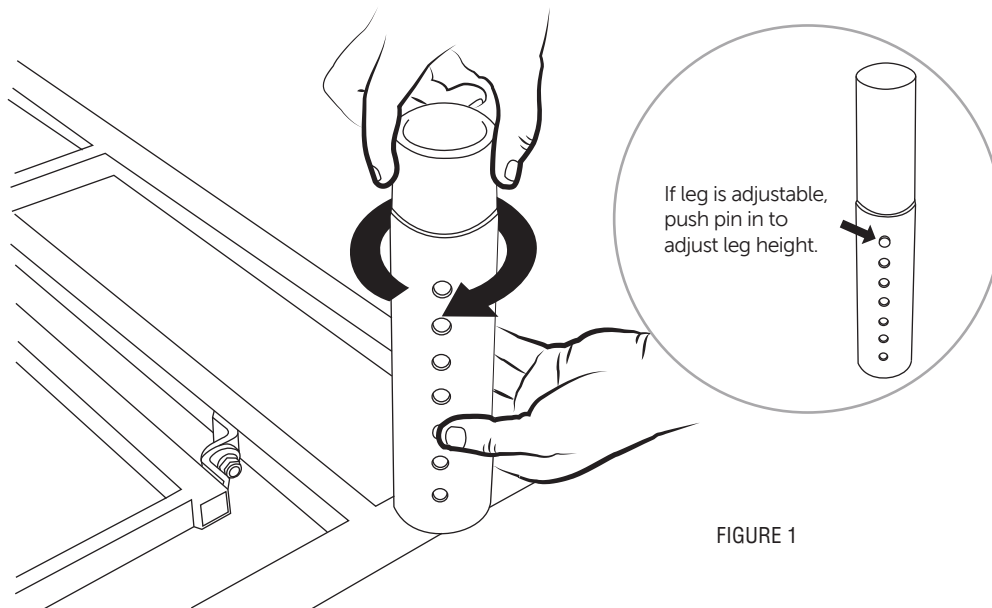

FIGURE 1
FOR STANDALONE SETUP (using legs), screw (4) legs into the tapped holes at the corners of the base frame (FIGURE 1). Rotate base over onto its legs.